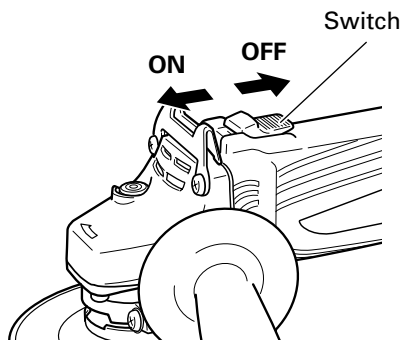

Fig. 3
2. Turn the grinder "on". (Fig. 3) While holding the grinder firmly, use one finger to slide the switch to the "on" position.